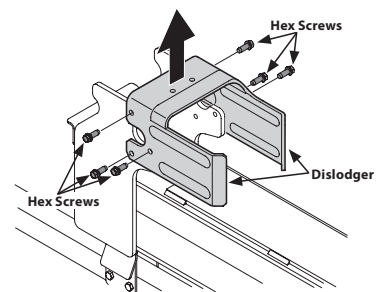

Figure 5
14. Disconnect the dislodger from the beam weld bracket by removing the six hex screws. See Figure 5.
17. Attach the dislodger over the wedge assembly and secure it to the weld brackets with the hardware removed in step 14. See Figure 5.